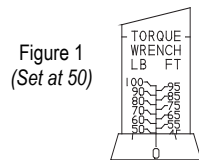
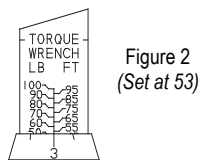

Figure 1
Figure 2
- The desired torque can be set by turning to the number indicated on the barrel. Line up the zero on the sleeve with the center line on the barrel (See figure 1). Then add the reading obtained by turning the sleeve clockwise. (See figure 2). Always approach the desired value from a lower setting.